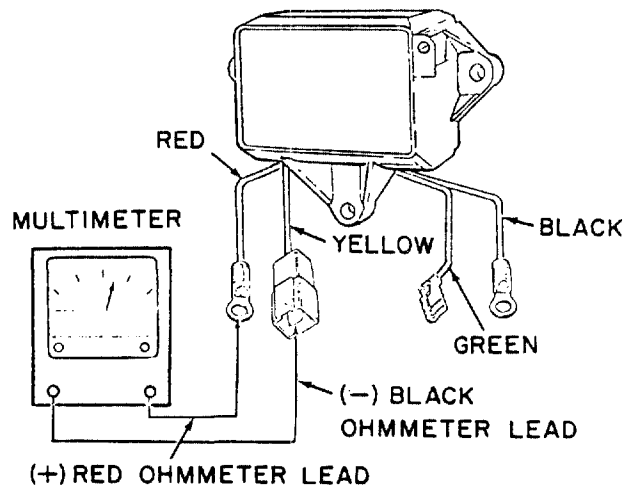

Figure 4-3. Voltage Regulator Excitation Circuit Test
f. Test rotor assembly (44) for grounds between slip ring and shaft, using a multimeter. An open circuit from either slip ring to shaft is a correct condition.
g. Perform resistance check on rotor assembly (44) windings using a multimeter; resistance should be between 11 to 14 ohms.
h. Test voltage regulator (16) by connecting multimeter leads to regulator leads as follows (see figure 4-3):
(1) Connect the multimeter (set to lowest resistance range) to two pairs of stator leads; if reading is very high (over 10 ohms) the stator winding is open.
(2) To test the stator for grounds, connect the multimeter from any stator lead to the ground screw or the shell, and note the reading. If reading is very low, the stator is shorted to ground (defective).